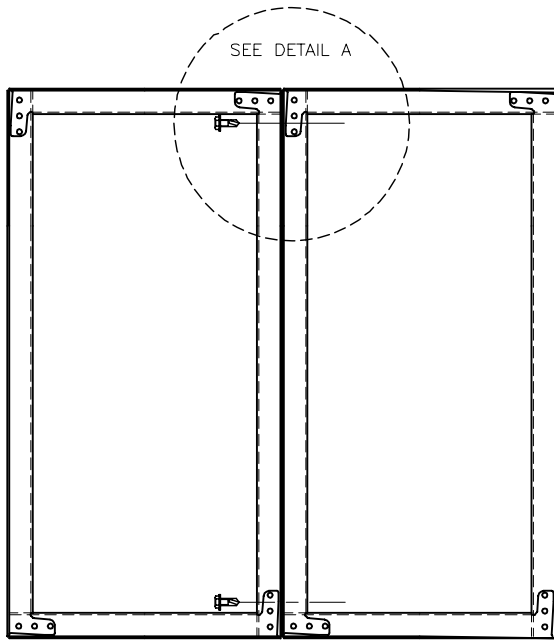

Figure 1
2. If more than two sections wide, unit ships as multiple section assembly and single section together. The single section is joined to the side, of the multiple section, where the jackshaft extends past the frame 4 inches (see Figure 1 & 2).